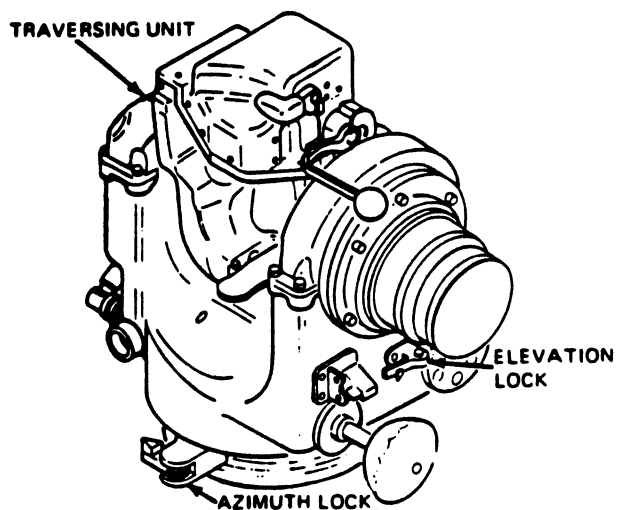

Fig 4-14. Elevation lock/azimuth lock (traversing unit).
Step 2. Ensure the azimuth lock and the elevation lock on the traversing unit are in the LOCK/LOCKED position (fig 4-14).